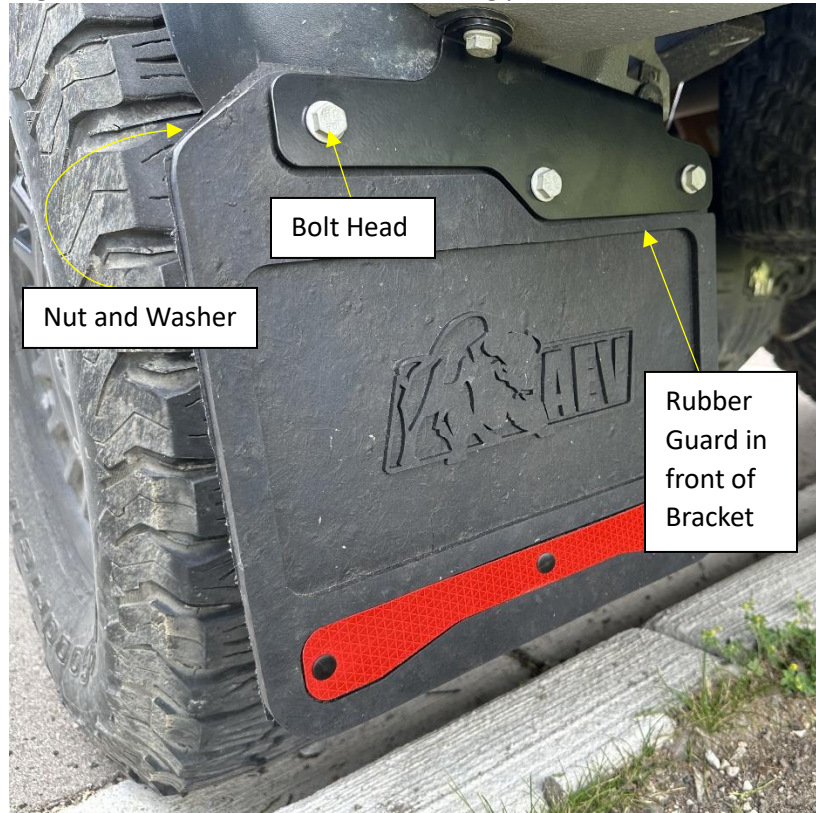

Figure 10
6. Install the rubber piece onto your AEV splash guard bracket. This bracket will glove into the pre-molded recession on the rubber piece (Figure 10).